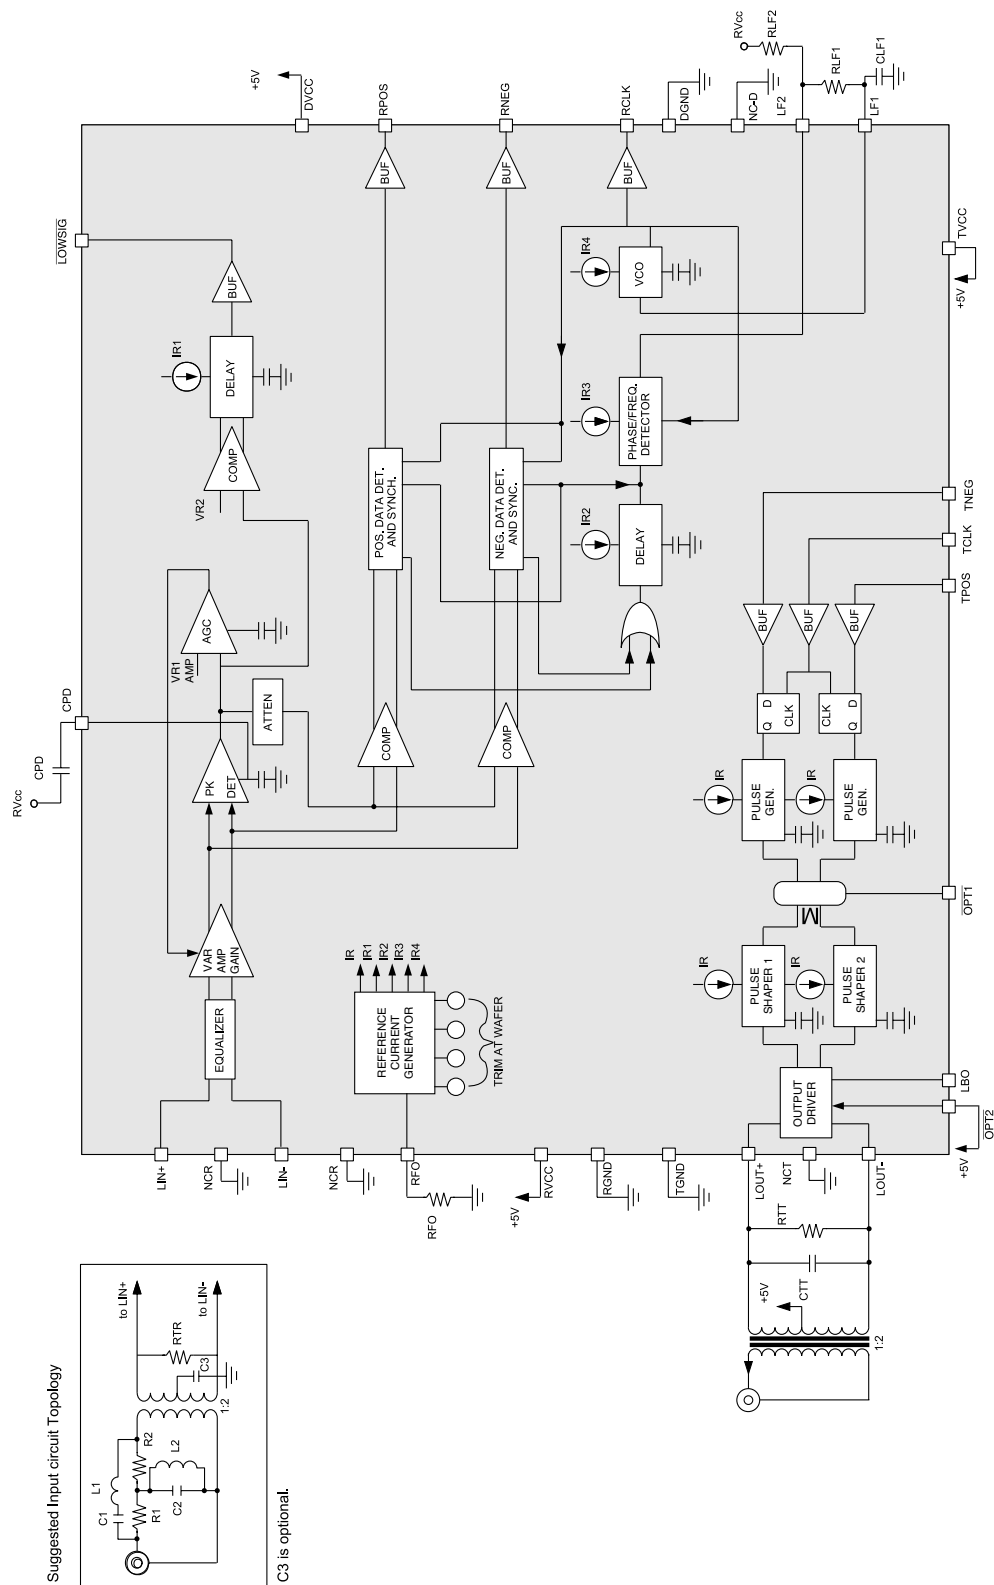

FIGURE 1: Functional Diagram
The AMI signal first enters a fixed equalizer which is designed to overcome the intersymbol interference caused by long cable lengths and crosstalk. This fixed equalizer is optimized for DS-3 application and its effect should be compensated by an external filter circuit similar to Figure 1, for all square shaped signals such as DS3-high or 34 Mbit/s E3. For all new designs, the addition of the filter for DS3 and STS-1 as well as E3 rate allows the circuit to work with sharp pulses such as DS3-high. The signal is then input to a variable gain differential amplifier whose output is maintained at a constant voltage level regardless of the input voltage level. The gain of this amplifier is adjusted by detecting the peak of the signal and comparing it to a fixed reference.
1. The input signal is transformer coupled as shown in Figure 1.